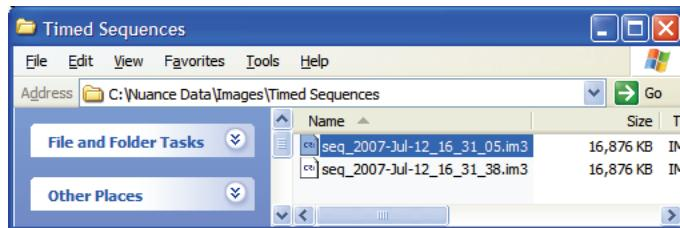

Figure 27. Cubes acquired during timed acquisition
- When the acquisition sequence is complete, you can locate the cubes at the destination directory and open them in Nuance. As seen in Figure 27, the cube filenames begin with the base name you specified and include the date and time of acquisition.